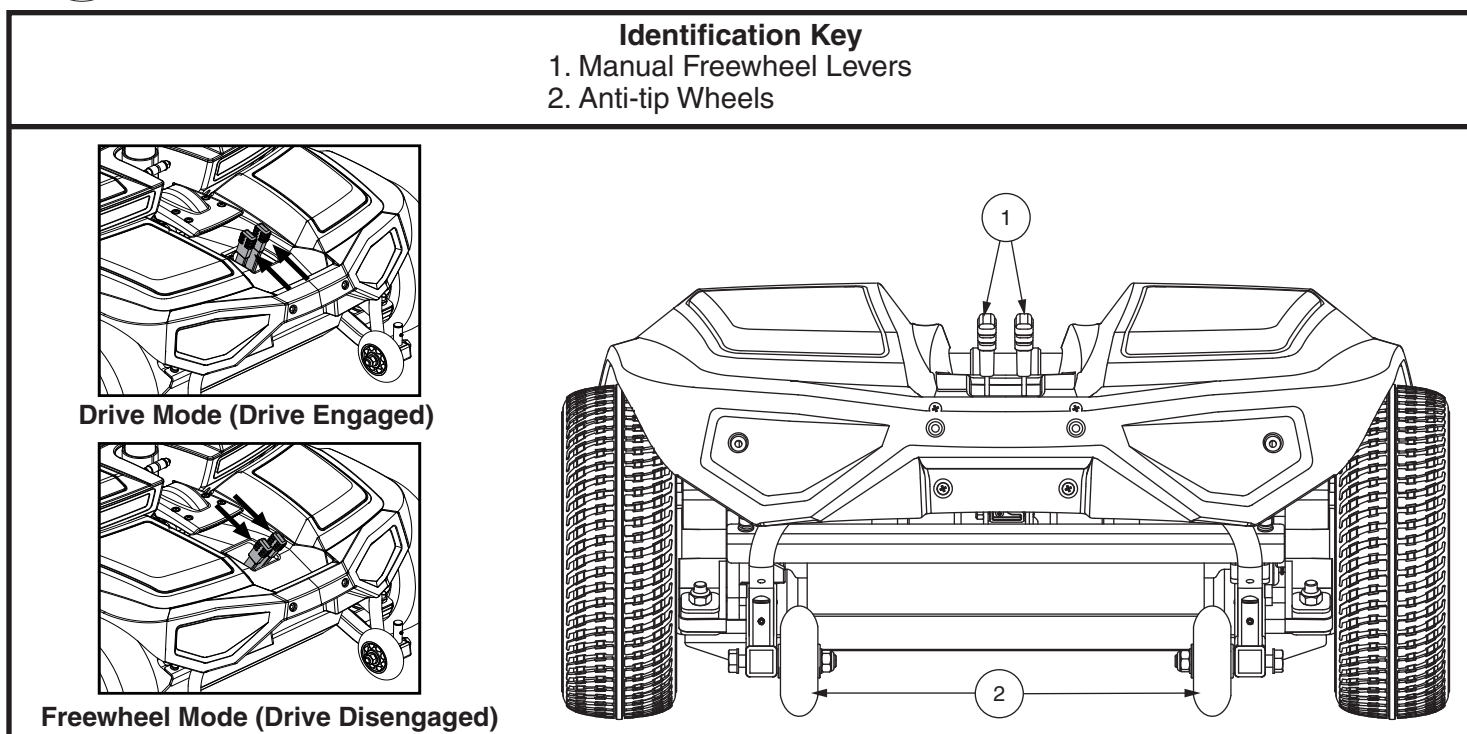

Figure 3. Back of Power Base
1. Locate the levers on the rear section of the power base. **See figure 3.**
The anti-tip wheels are an integral and important safety feature of your Go-Chair. They are bolted to the frame at the rear of the chair. **See figure 3.**
2. Ensure the travel chair is in drive mode. **See figure 3.**